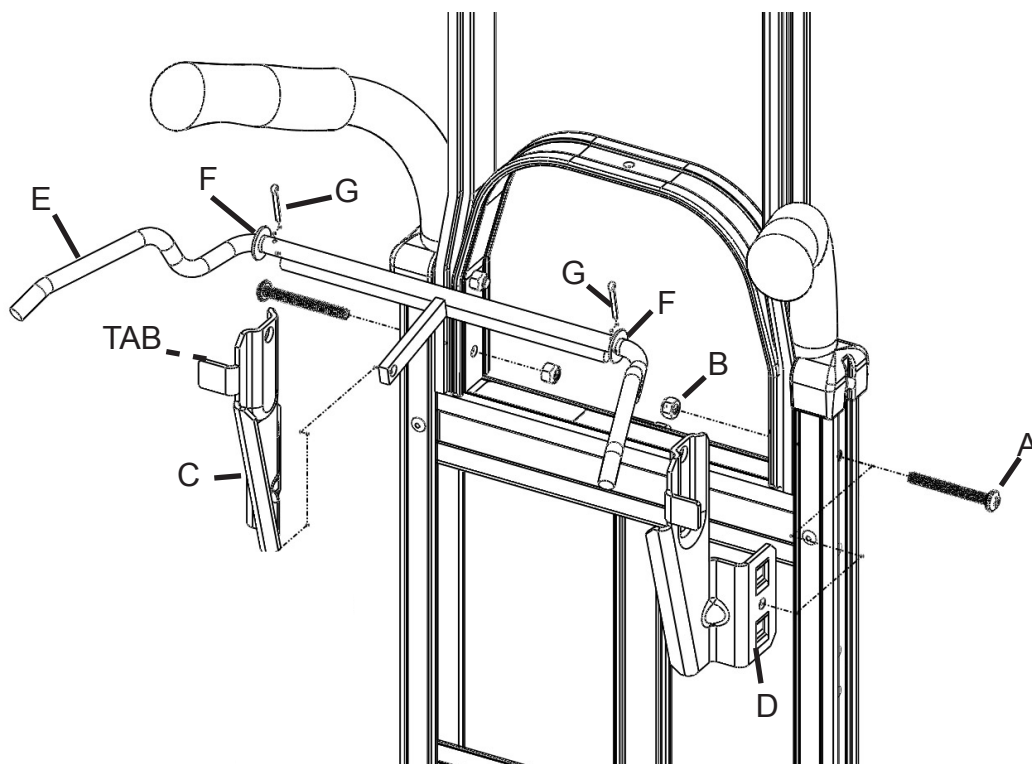

Figure 4
2. Position the LH handle mounting bracket (C) as illustrated in Figure 4 with the tab (TAB) facing away from center of the truck and secure it with a 1/4" x 2 1/4" long pan head machine screw (A) and 1/4"-20 locknut (B).
3. Slide a 3/8" washer (F) on the LH end of the handle actuator (E) and insert actuator through the hole in the LH handle mounting bracket (C) and hold in place. Slide a 3/8" washer (F) on the RH end of the handle actuator then slide the RH handle mounting bracket (D) over the end and slide bracket into place.
4. With the brake actuator handle in place resting on the tabs, assemble the RH handle mounting bracket to the side rail using a 1/4" x 2 1/4" long pan head machine screw (A) and 1/4"-20 locknut (B). Securely tighten the mounting bracket using the #2 Phillips head screwdriver and the 7/16" wrench.
5. Install a cotter pin (G) on the inside of each 3/8" washer (F) in the holes provided. Using the needle nose pliers bend the end of the cotter pins to keep secure.